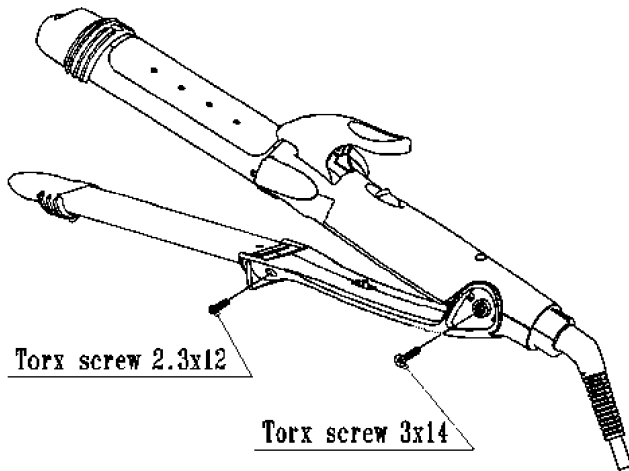

Figure 3
3. Remove torx screws(2.3x12 and 3x14) from Dry pipe holder as shown in Figure 3.